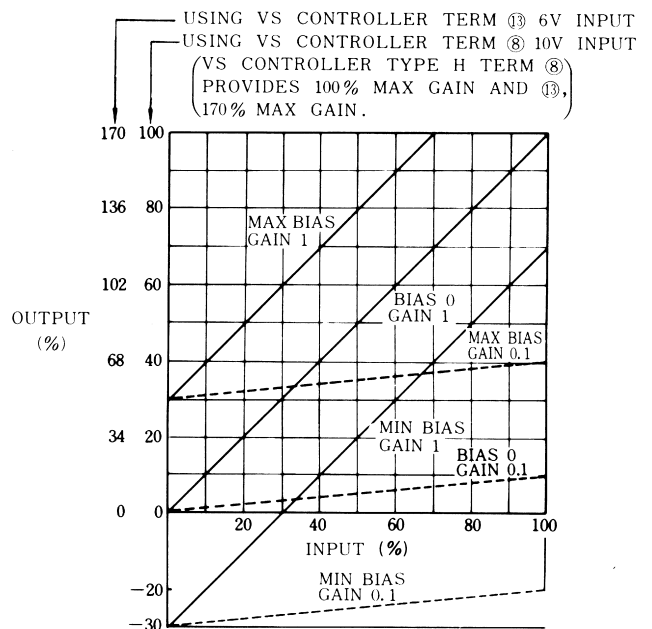

Fig. 7 Characteristics of Ratio and Bias Setting
* For ratings with asterisk, refer to Fig. 7.